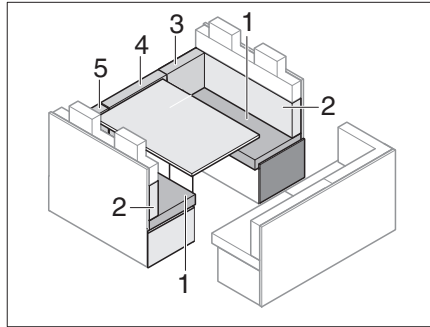

Fig. 191 Prior to conversion
- Remove the back cushions (Fig. 191,3,4 and 5) and lay them aside.